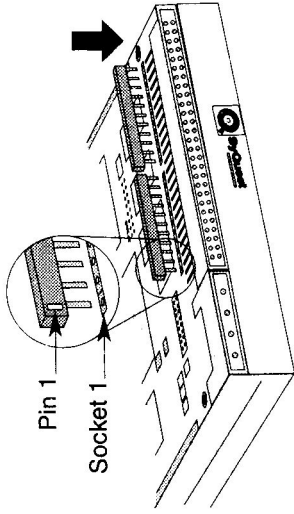

Figure 5. Reinstalling the SCSI Terminating Resistor Packs
1. Be sure to insert pin 1, shown as a white rectangle in Figure 5, into the correct pin 1 socket.